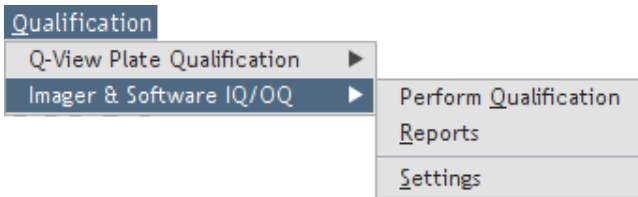
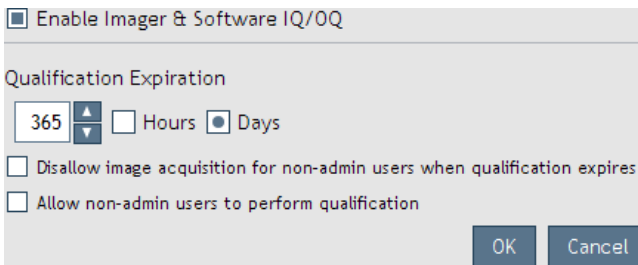
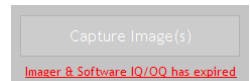

Figure 24. Imager & Software IQ/OQ menu.
Figure 25. Imager & Software IQ/OQ settings.
Figure 26. Image capture is restricted.
Imager & Software IQ/OQ settings (Figure 25) can be accessed from the **Qualification > Imager & Software IQ/OQ > Settings** menu (Figure 24). The settings are accessible to only admin users.
- **Disallow image acquisition for non-admin users when qualification expires:** When selected, non-admin users are not allowed to capture images when qualification expires (Figure 26).
In the Q-View Software, select **Qualification > Imager & Software IQ/OQ > Perform Qualification from the menu** (Figure 24) or click **Imager & Software IQ/OQ has expired** (Figure 26) from the Image Acquisition screen. The process takes about 15 minutes to complete.
To export qualification reports, select **Qualification > Imager & Software IQ/OQ > Reports** (Figure 25) from the menu.